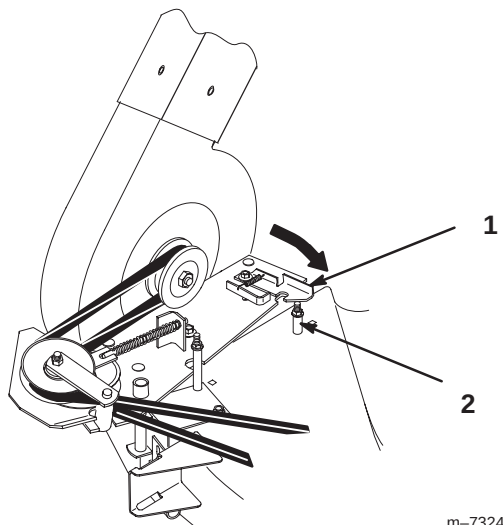

Figure 11
- With the belt installed, swing the blower toward the mower until the blower latch locks over the pin at the back of the mower (Fig. 11).